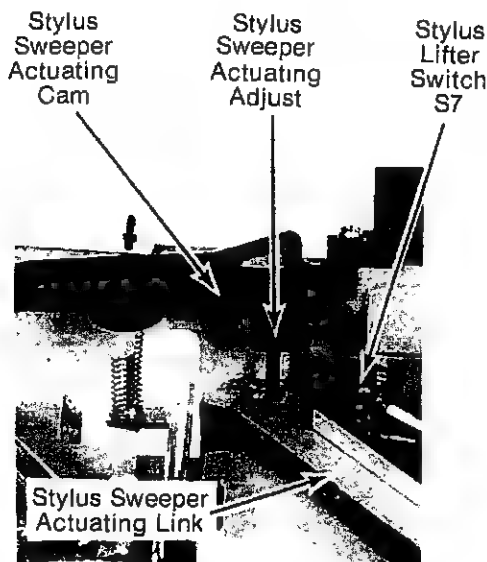

**Fig. 3-9. Turntable Height Adjust Screw**
When replacing pickup arm assembly, be certain pickup arm is in it's outermost position and the radius sensor assembly is almost in the full counterclockwise position. Figs. 3-9 & 2-11
1. If gauge remains on lowest step — Remove yoke assembly and spindle, raise turntable height by adjusting turntable height adjust screw clockwise (item 2 Fig. 3-9). Replace spindle and yoke assembly.